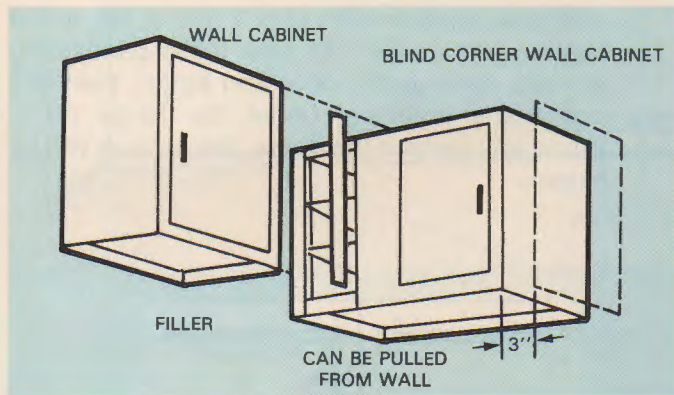

Fig. 49-33. Blind corner cabinets can be pulled from the wall to accommodate a nonmodular wall length.
9. Hang and secure two cabinets at a time across the wall. There may be cabinets along the wall and more around a corner. If so, you likely will need a filler strip cut to size, Fig. 49-33.